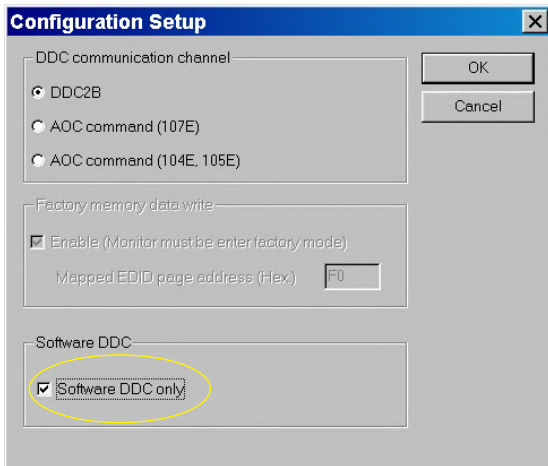

Fig. 16
1. Click  icon from the tool bar to bring up the Configuration Setup windows again. Then, select "Software DDC only" as shown in Fig. 16. Click "OK".
4. Access "Factory Mode" and enable "Software DDC only" as shown in Fig. 17 & Fig. 16.